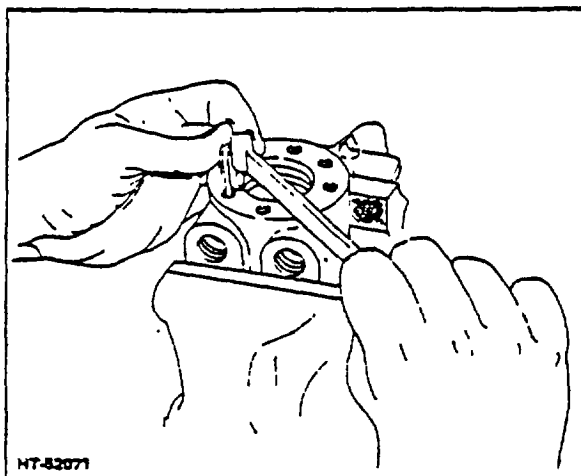

Figure 14. Removing Check Valve Seat
15. With housing installed in vise, control end up, remove check valve seat with 3/16 hex wrench (Fig. 14).